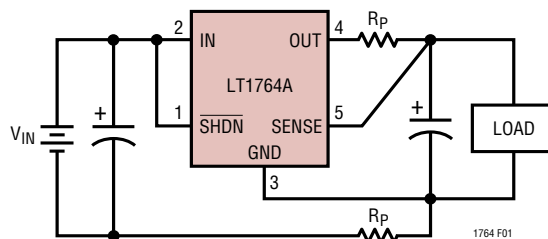

Figure 1. Kelvin Sense Connection
**SENSE (Pin 5/Pin 5/Pin 6):** Sense. For fixed voltage versions of the LT1764A (LT1764A-1.5/LT1764A-1.8/LT1764A-2.5/LT1764A-3.3), the SENSE pin is the input to the error amplifier. Optimum regulation will be obtained at the point where the SENSE pin is connected to the OUT pin of the regulator. In critical applications, small voltage drops are caused by the resistance ( $R_P$ ) of PC traces between the regulator and the load. These may be eliminated by connecting the SENSE pin to the output at the load as shown in Figure 1 (Kelvin Sense Connection). Note that the voltage drop across the external PC traces will add to the dropout voltage of the regulator. The SENSE pin bias current is 600 $\mu\text{A}$  at the nominal rated output voltage. The SENSE pin can be pulled below ground (as in a dual supply system where the regulator load is returned to a negative supply) and still allow the device to start and operate.